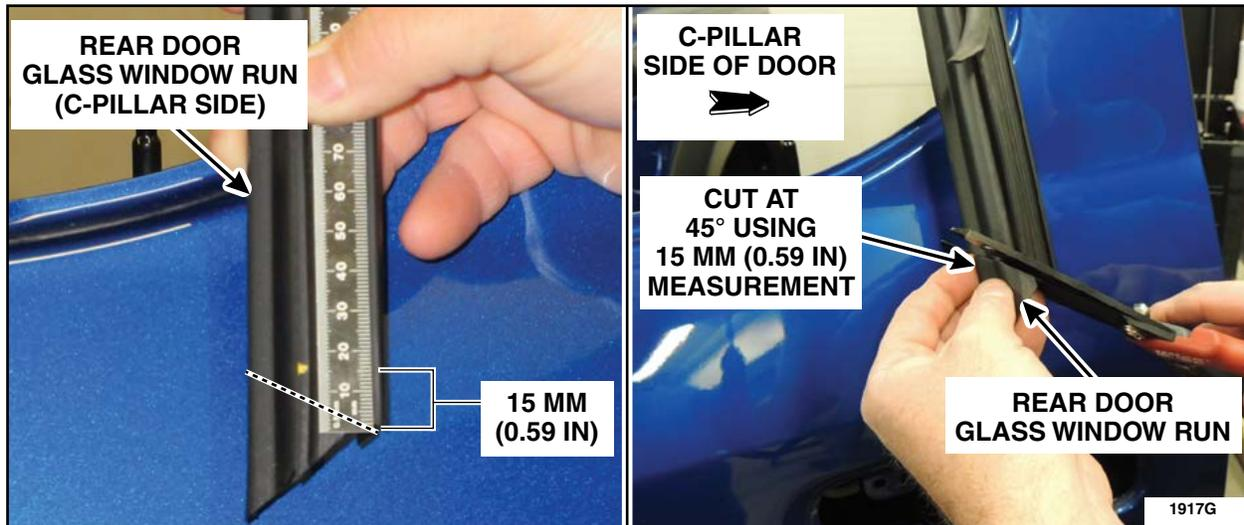

FIGURE 45
16. On vehicles built on or before 8-Jun-2018, modify the rear door glass top run. See Figure 45.